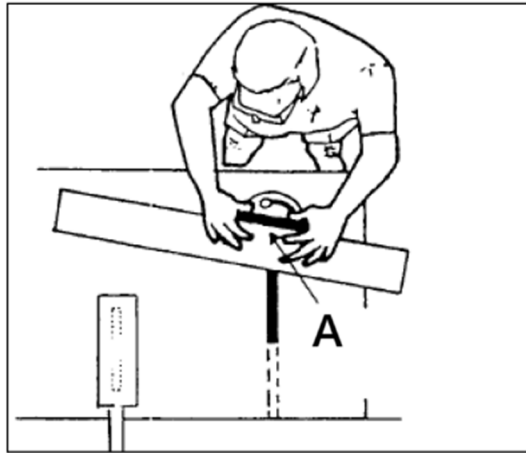

Fig. 20
2. Feed workpieces only using a cross limit stop or a cross feeder (Fig. 20).